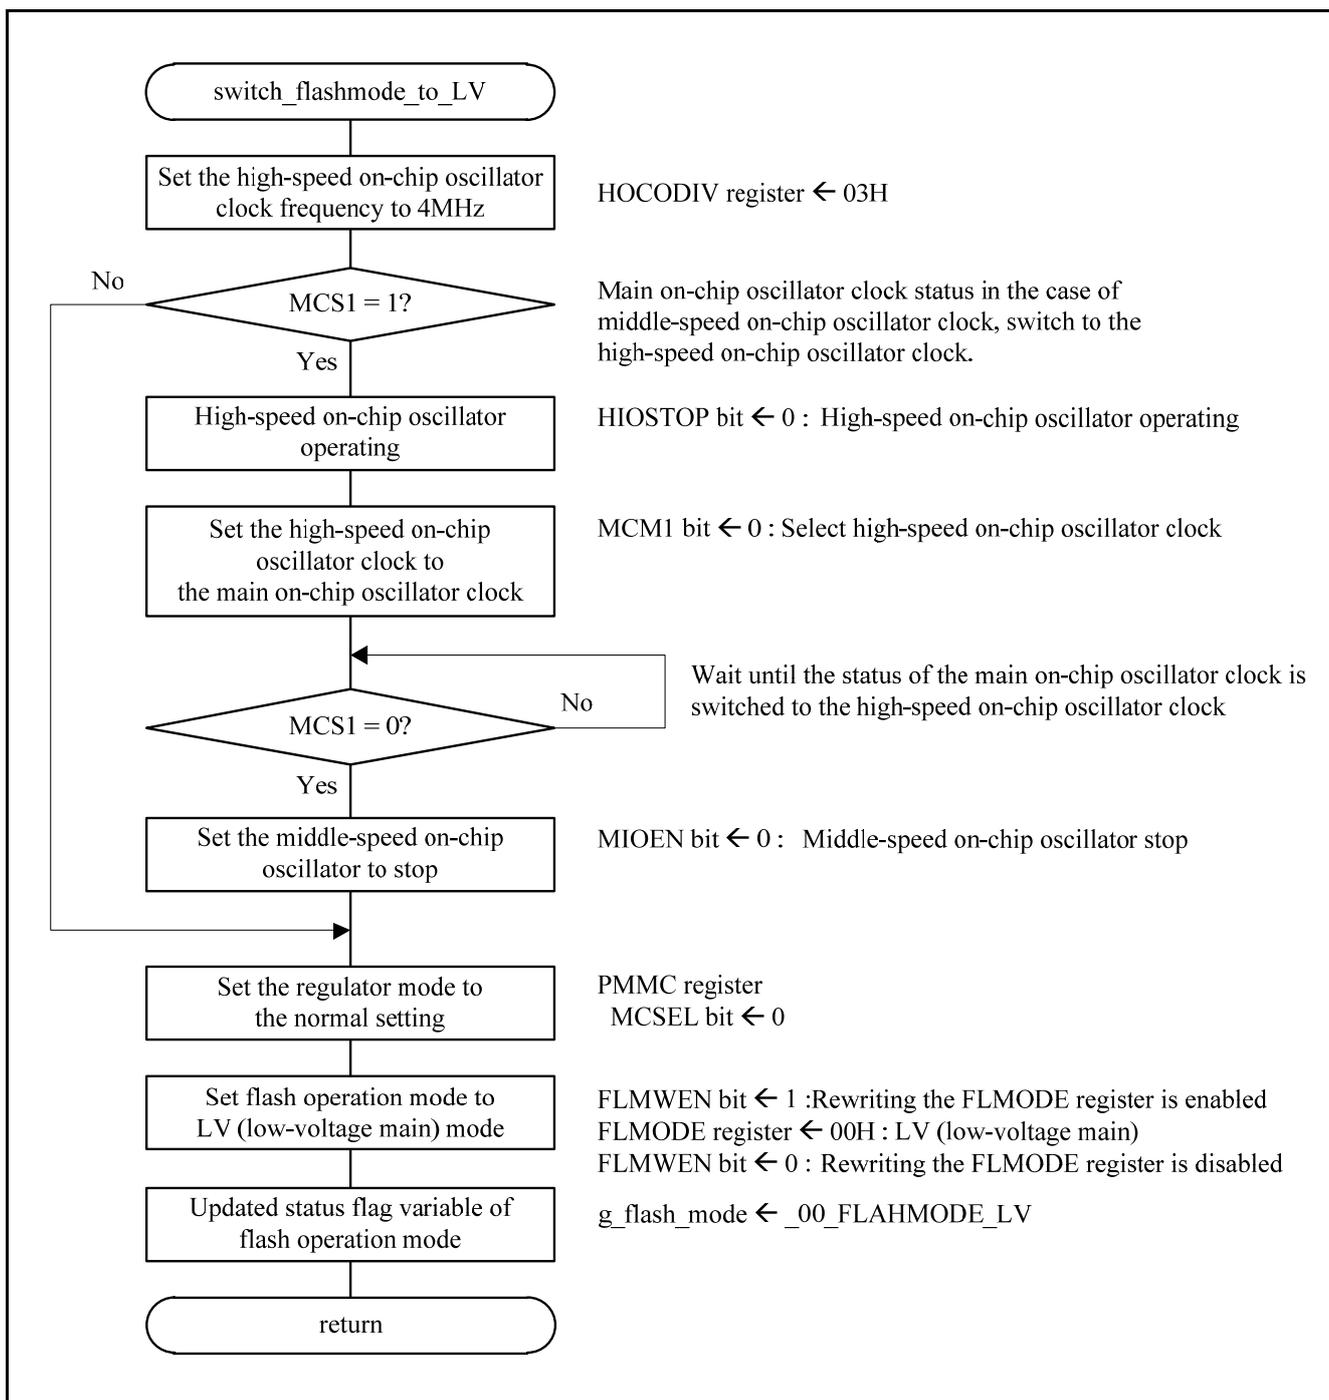

Figure 4.14 Flash operation switching (LV) processing
4.7.13. Flash operation mode switching (LV) processing
Figure 4.14 shows the flowchart of the flash operation mode switching (LV) processing.